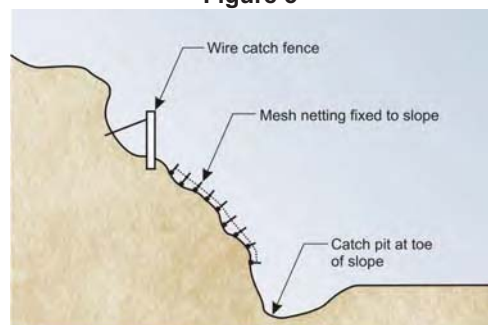

Figure 6
**Rock fall netting, catch fences and catch pits** (Figure 6) - are designed to catch or control falling rocks and prevent them from damaging nearby property. You should inspect them at least once every 5 years, and after major falls, and arrange for fallen and trapped rocks to be removed if they appear to be filling up. Check for signs of corrosion and replace steel elements and fixings before they lose significant strength.